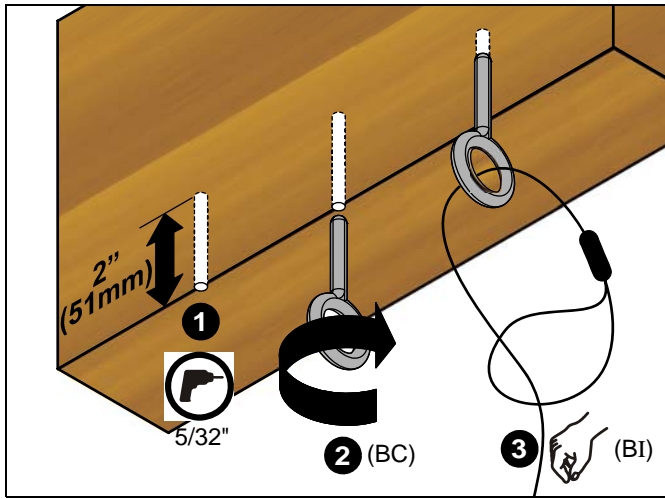

Figure 13
1. Drill 5/32" diameter x 2" deep hole at each marked cable anchor support location (See Figure 13). Remove debris from hole.
2. Fully thread eye lag (BC) into each hole (See Figure 13).
3. Route end of cable (BI) through eye lag (BC) and then through cable loop (See Figure 13). Repeat for 3 remaining support locations.